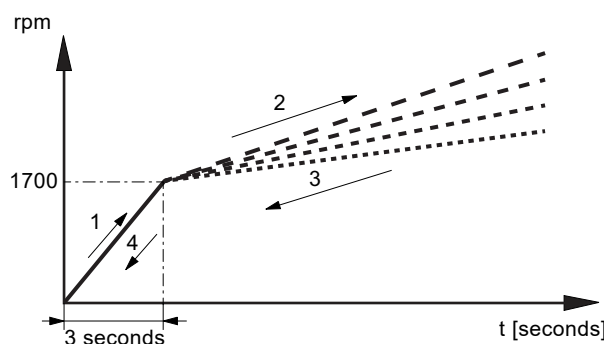

Fig. 6 Ramp down
1. Ramp down the BMS hp pump (6) according to the factory settings. See fig. 6 (3 and 4).